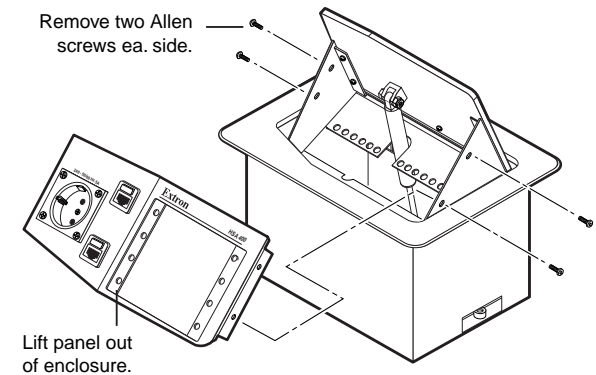

Figure 2-4 — Removing the front panel from an HSA 400 International
1. Remove the four hex head screws on the right and left sides of the front panel (figure 2-4). Retain the screws. Lift the panel away from the enclosure.